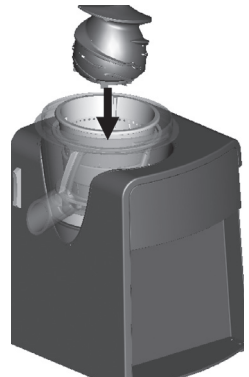

Fig. 5
- 5) Insert the screw (7) into the strainer (6) so that the screw is fully in place (fig. 5)